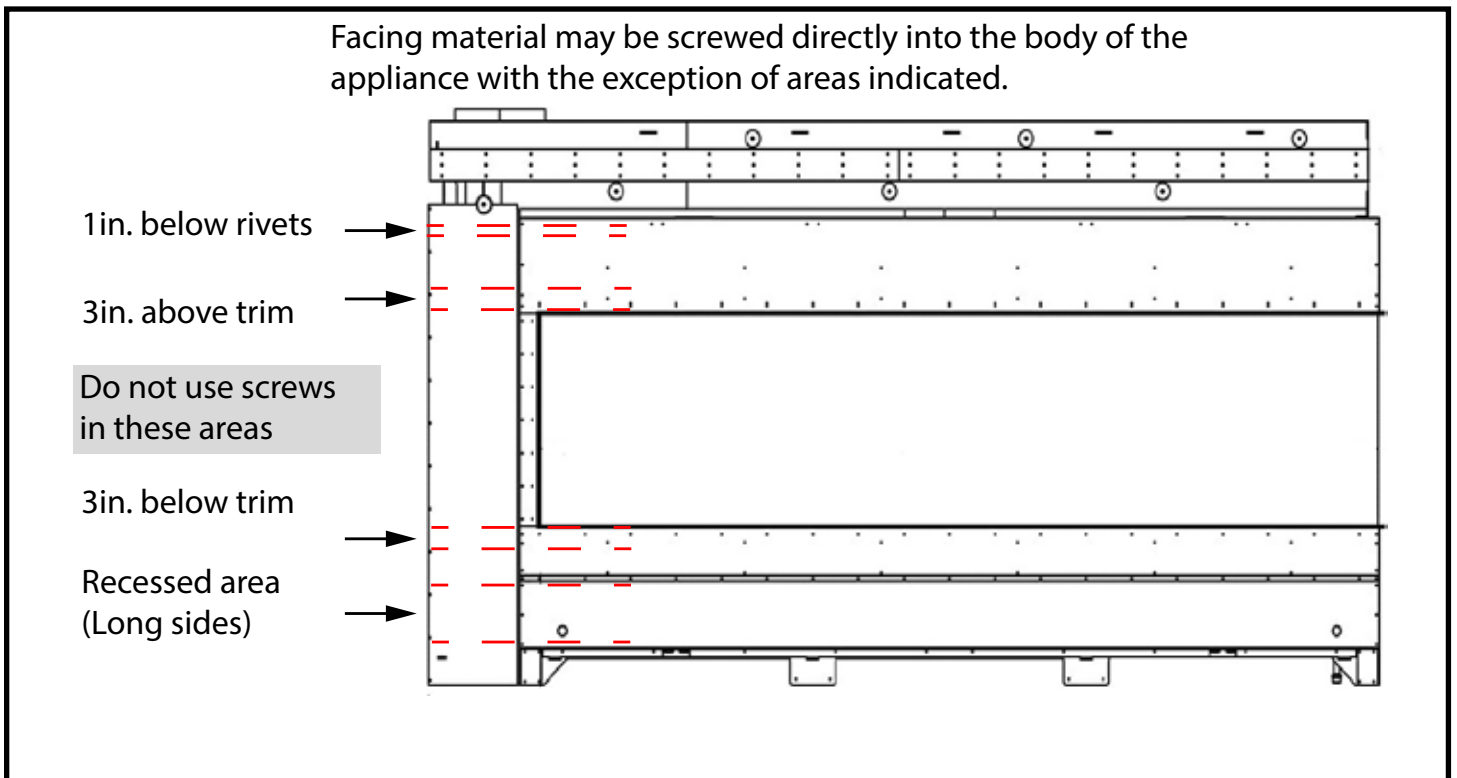

Figure 12: Facing attachment area.
2. Facing material can be secured directly to the front and sides of the unit except in the areas indicated in this example in (Figure 12). Each model will have its own specific areas in which screws must not be driven into.